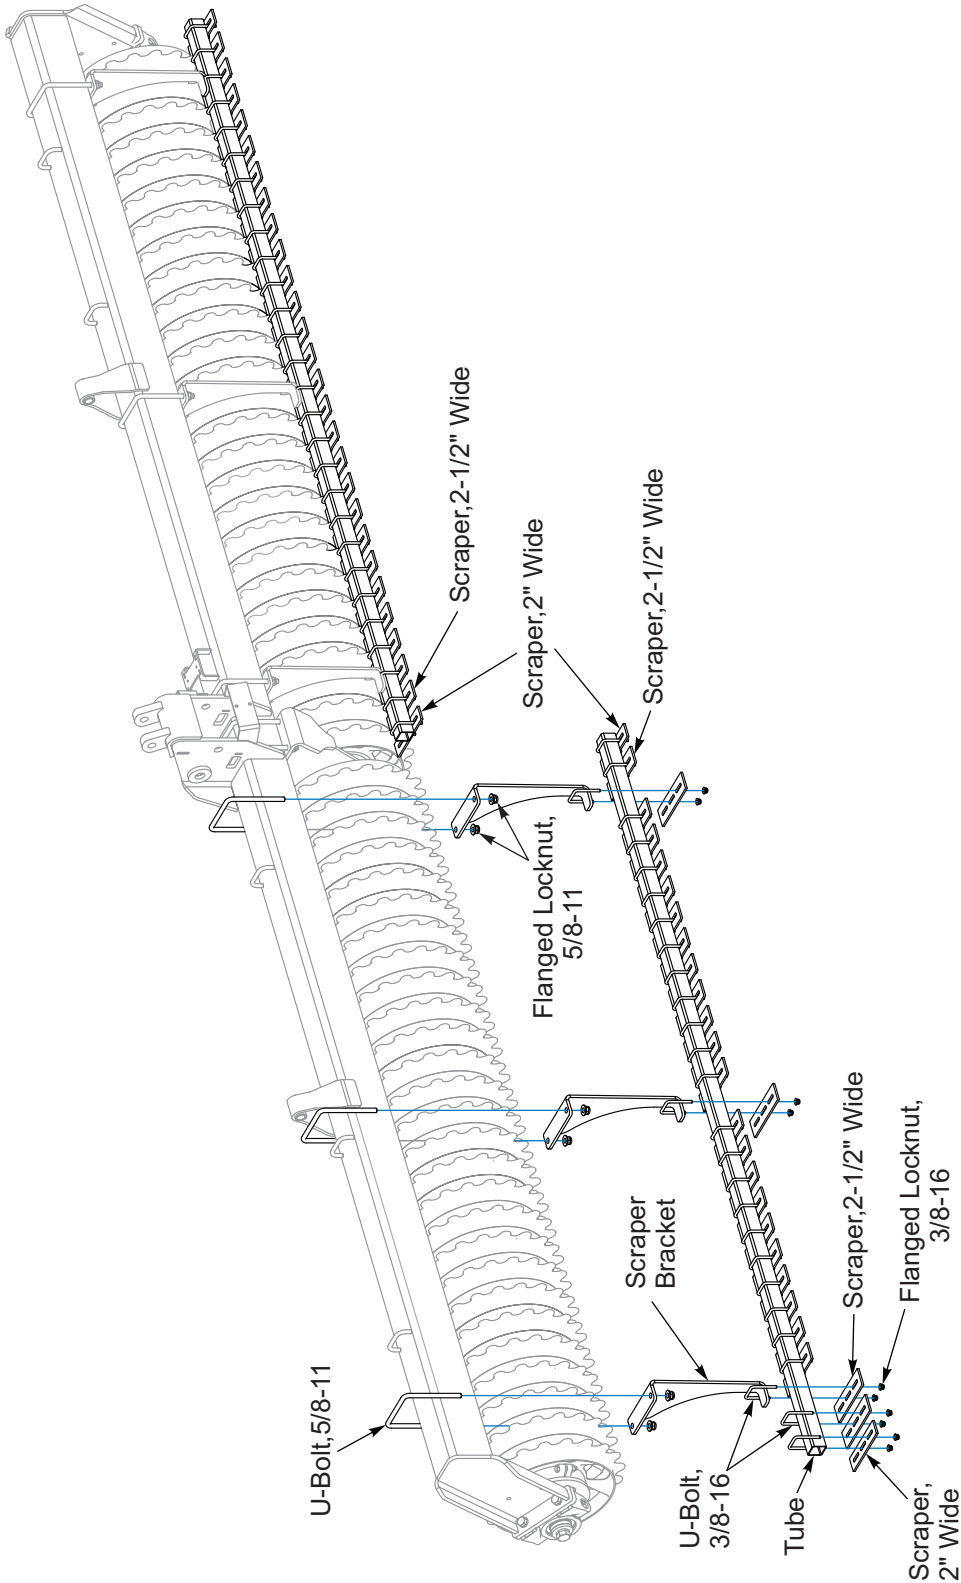

Figure 2-26: Notched Scraper Installation, 18FT - 20FT Models
1. With the rollers on level ground, place six 5/8-11 U-Bolts over the Frame Tube and through the Scraper Brackets. Hand tighten Flanged Locknuts. **See Figure 2-26.**